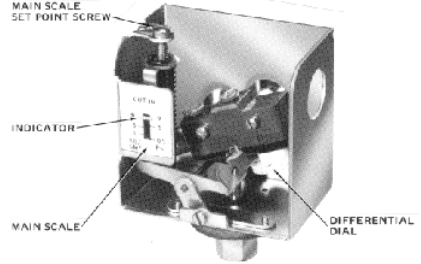

Fig. 8. Internal view of PA404, showing adjustment screw and differential dial.
1. Set main scale indicator at desired cut-in point by turning main scale set point screw until indicator (see Fig. 8) corresponds to pressure at which electric circuit should make.